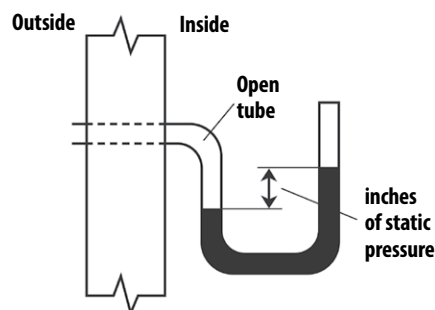

Figure 1. Static pressure as measured with a manometer.
**Static pressure:** Static pressure is the difference in pressure that a ventilation fan creates between the inside and outside of a mechanically ventilated structure. Static pressure may be measured using a manometer (Figure 1). Fans are used to create a vacuum within a building by exhausting air. The indoor environment, having a lower pressure than